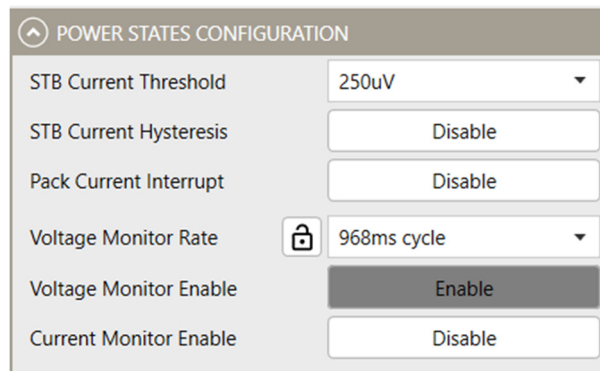

Figure 12: Voltage Monitor Enable Is Selected
6. During configuration, all the voltage monitoring functions are disabled by default. If a hardware monitoring alarm is required, enable the “Voltage Monitor Enable” setting (see Figure 12).